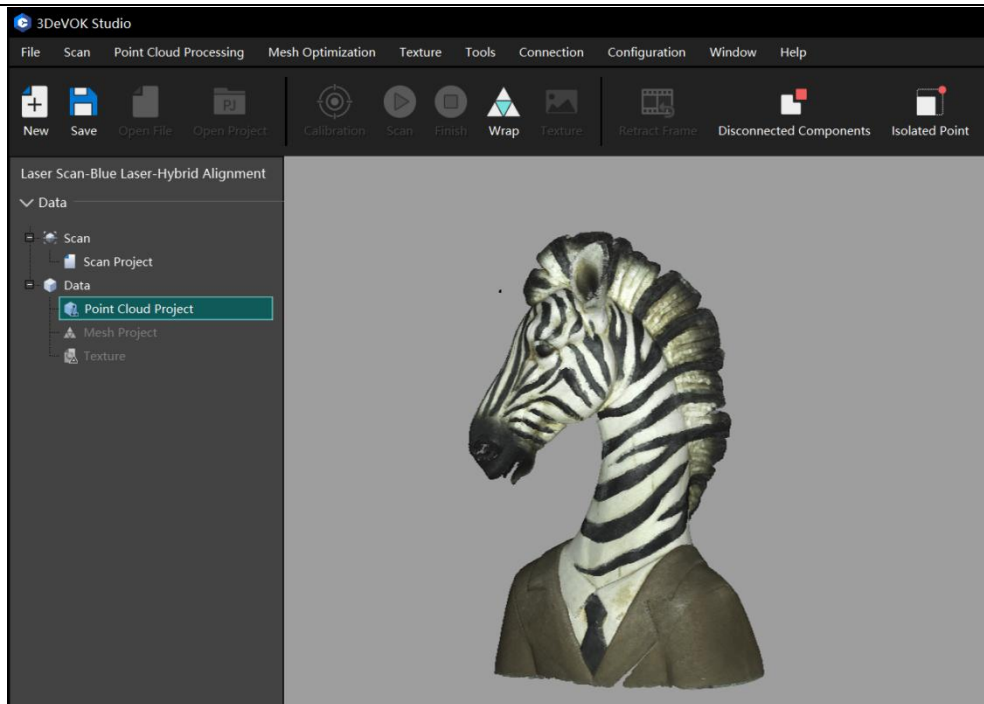

Figure 8-4 Point Cloud Interface of 3DeVOK Studio
4. The interface will automatically switch to the Point Cloud interface, and the generated point cloud model will be displayed, which is shown in Figure 8-4.